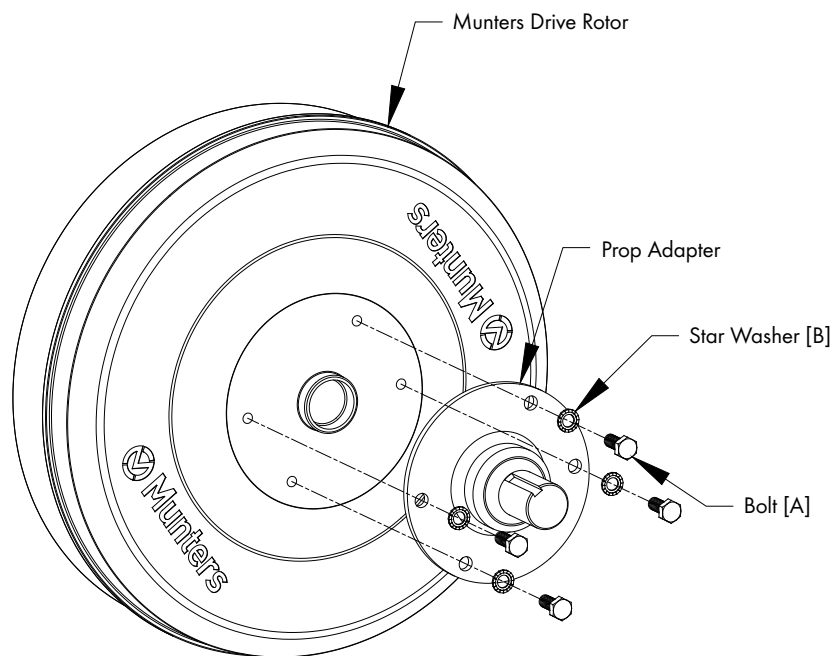

Figure 19
Attach the Prop Adapter removed in previous step to new Munters Drive Rotor using (4) Bolts [A] and Star Washers [B]. Tighten Bolts to 60 in-lbs. [6.8 Nm] of torque. See Figure 19.